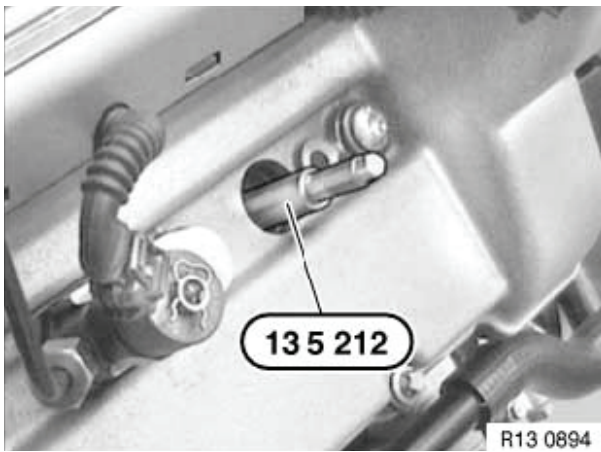

Figure 6-14
9. Clean sides of cavity by sliding tool in and out (Figure 6-14).